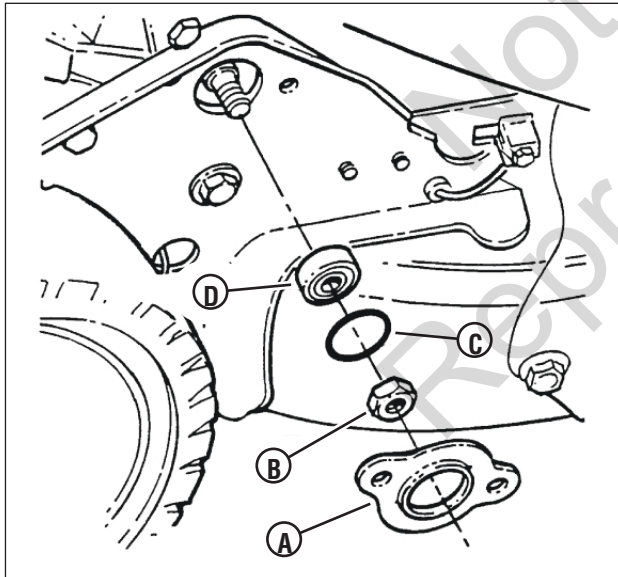

Figure 30: Replacing the hex shaft bearing
2. Remove the 3/8" hex lock nut (B, Figure 30), located on the outside of the right wheel bracket.
3. Remove the holder (A), O-ring (C) and bearing (D).